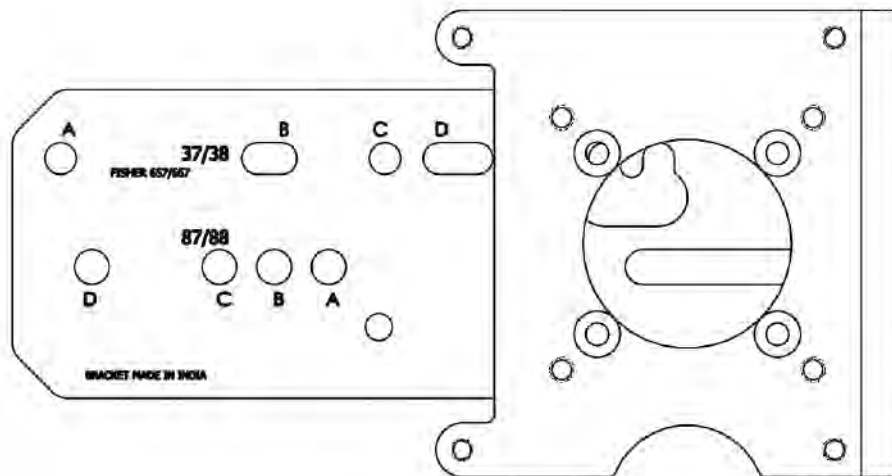

Figure 23 Reciprocating Valve Mounting Bracket
2. Mount the SVI FF reciprocating mounting bracket to the actuator using two (2) 5/16 - 18 UNC cap screws. The mounting location of the bracket depends on the size and stroke of the actuator. Refer to Figure 23 and Table 7 on page 57.
11. Adjust the turnbuckle until the hole in the SVI FF lever is aligned with the indicating hole in the bracket. Tighten both turnbuckle lock nuts. See Figure 23 on page 55.